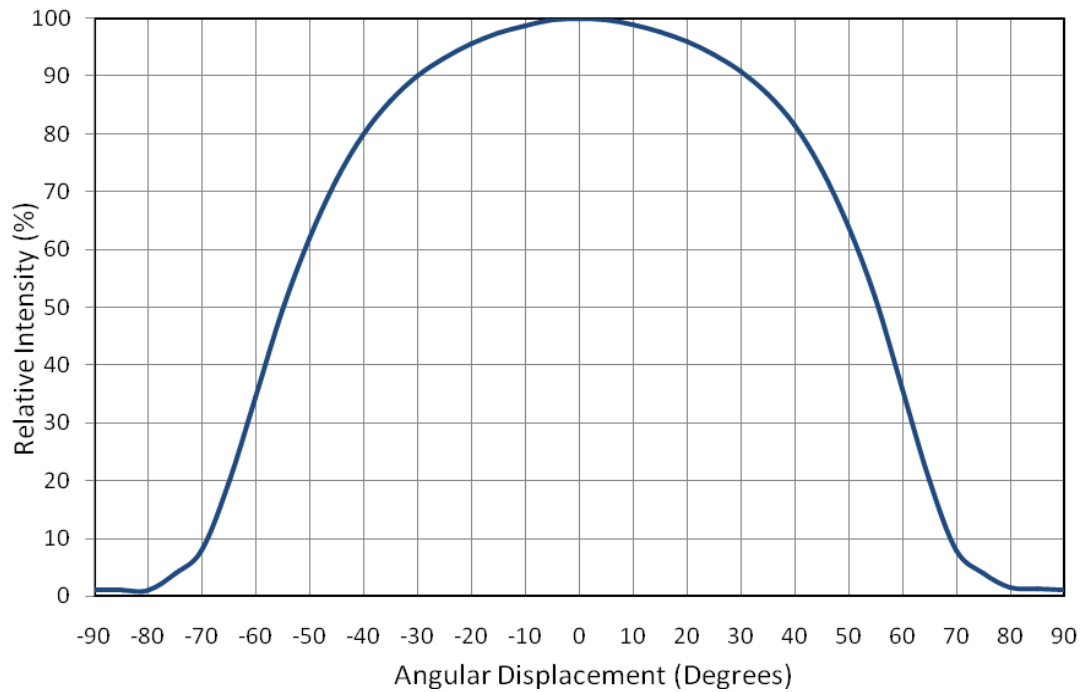

Figure 5: Typical representative spatial radiation pattern.
- Solder conditions per JEDEC 020D. See Reflow Soldering Profile Figure 5.